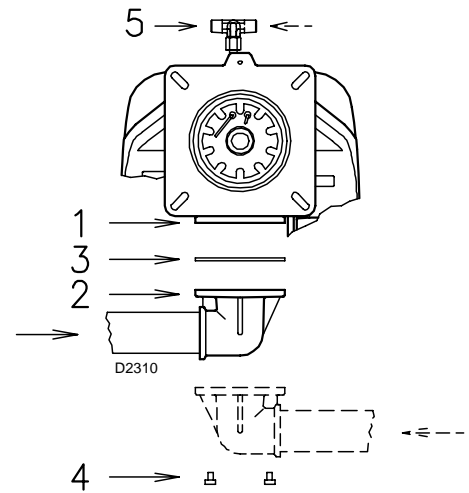

Fig. 20
- The main gas train must be connected to the gas attachment 1)(Fig. 20), using flange 2), gasket 3) and screws 4) supplied with the burner.